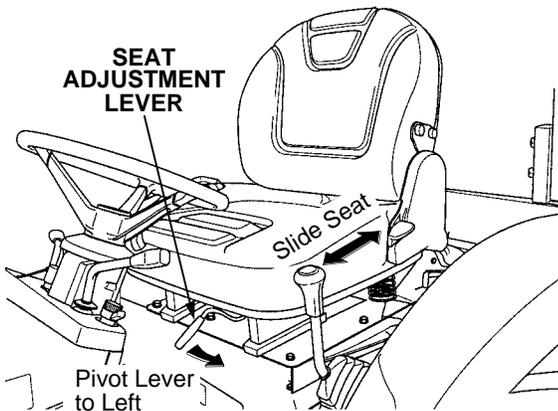

Figure 40
- To adjust the seat, pivot the seat adjustment lever to the left and hold while repositioning the seat to the desired position. See Figure 40.